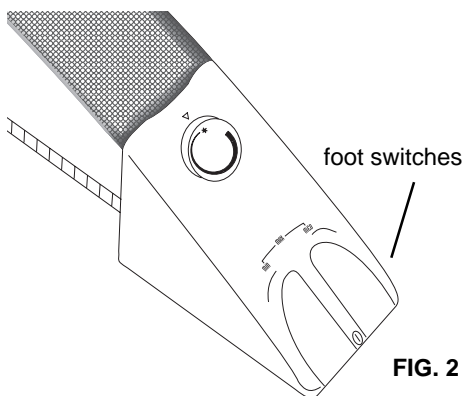

FIG. 2
4. SWITCHING ON THE APPLIANCE (FIG. 2)